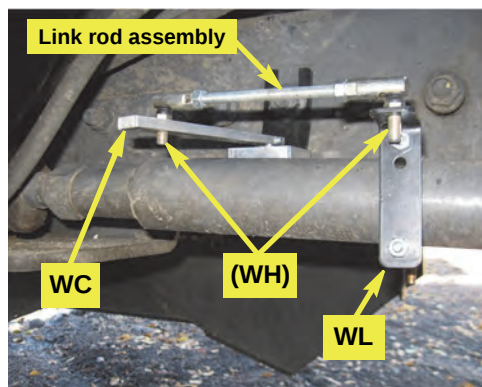

Figure 2d: WAS link rod assembly installed
- d. Using hardware **WH** (not shown), install the link rod assembly from step 1 between the last hole in WAS arm **WC** and bracket **WL**. Set the swivel studs downward at both ends (Figure 2d). Leave swivel nuts **WH** loose.